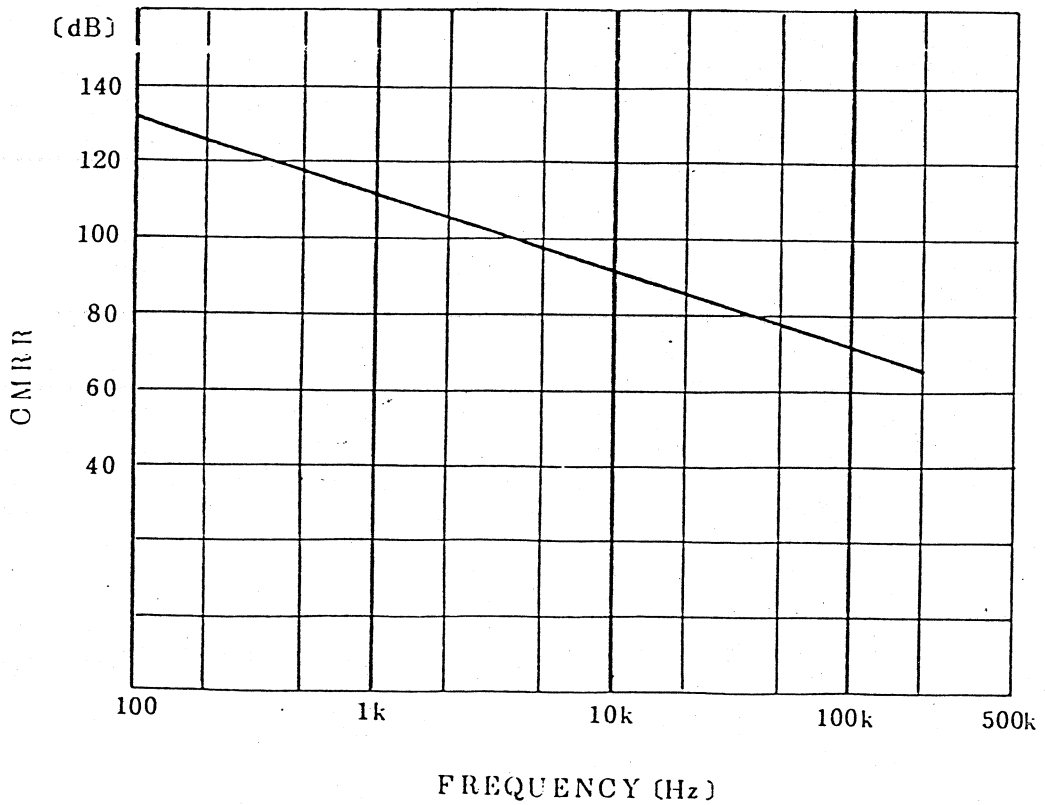

Fig. 6-2 Frequency vs. common mode rejection ratio
- Fig. 6-2 Frequency vs. common mode rejection ratio